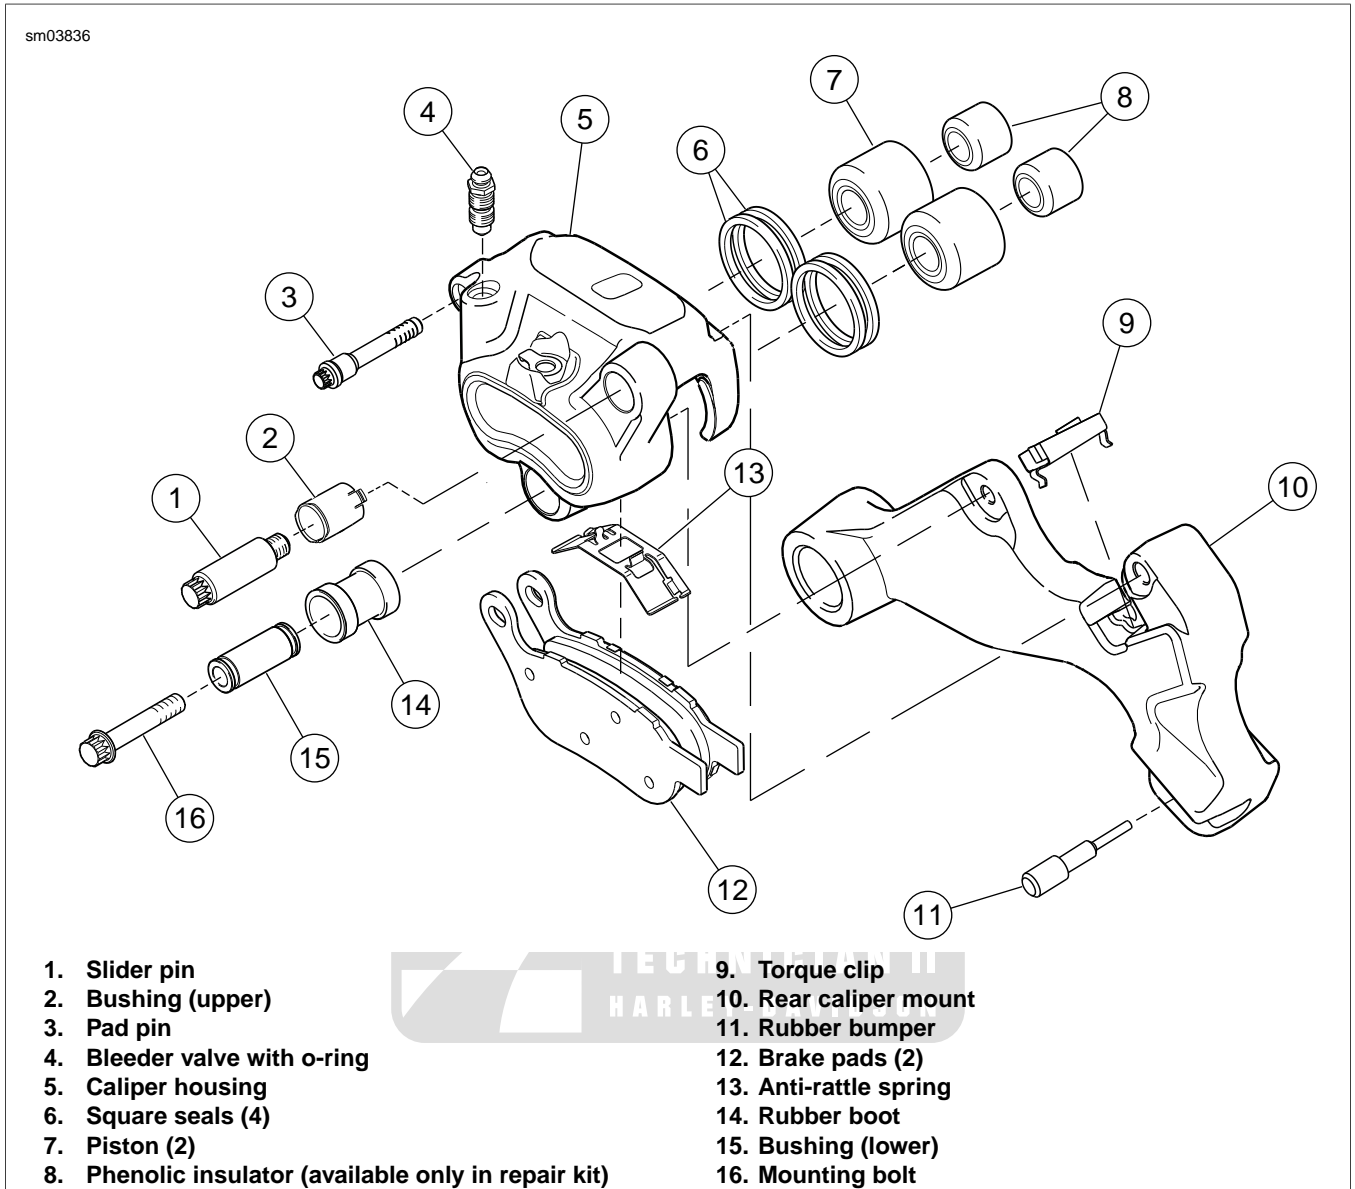
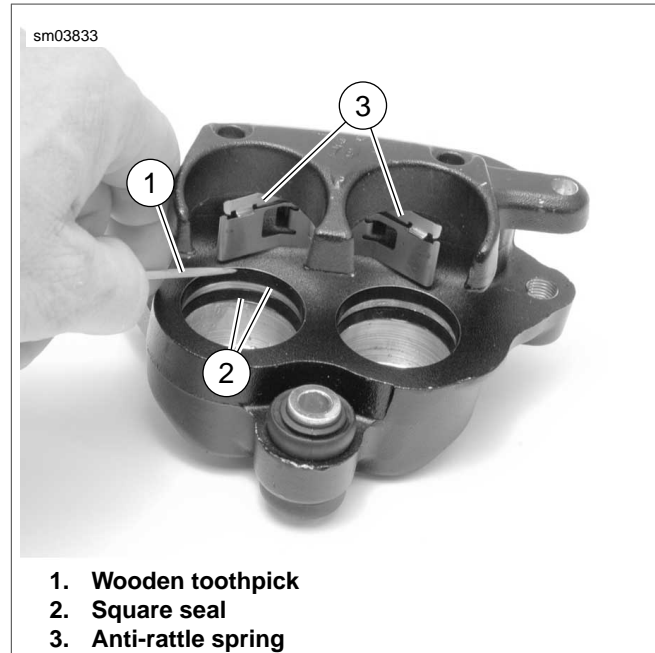

Figure 2-76. Rear Brake Caliper
Figure 2-78. Seals and Spring
1. See Figure 2-76. Remove pad pin (3) and brake pads (12).
2. If necessary, remove bleeder valve (4).
- 5. See Figure 2-78. Using a wooden toothpick (1), remove two square seals (2) from each caliper bore. Discard all removed parts.
- 6. Pull anti-rattle spring (3) straight out to remove.
- e. See Figure 2-76. Inspect rubber boot (14) for cracks and damage. Inspect bushing (15) for free movement. Inspect bushing (2) for free movement or damage.
2. See Figure 2-78. Install two **new** square seals (2) into each piston bore. Use a wooden toothpick (1) to aid installation if needed.
3. Install anti-rattle spring (3). Ensure it is oriented correctly.
5. See Figure 2-76. Install bleeder valve (4) (with o-ring) in caliper housing, if removed, and tighten to 80-100 **in-lbs** (9.0-11.3 Nm).
- Anti-rattle spring orientation matches Figure 2-76.
2. See Figure 2-76. Ensure torque clip (9) is in place in caliper mount.